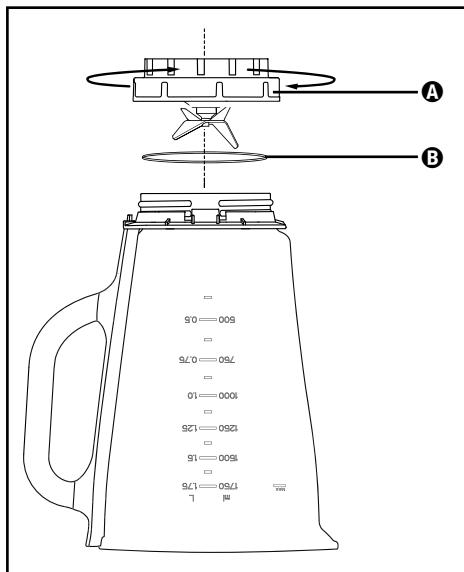

Fig. 3
- Turn the appliance upside down and turn the attachment **A** anticlockwise so that it can be detached from the jug of the blender **3** (see Fig. 3).